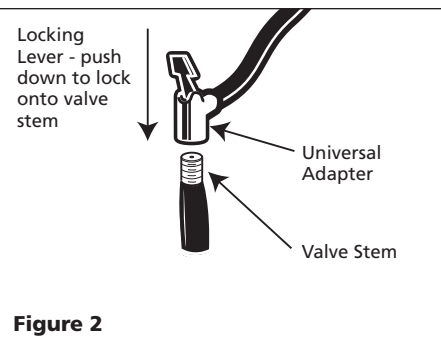

Figure 2
d.) Press locking lever down to lock onto valve stem (see Figure 2).
- 1) To use inflation accessories, insert accessory into the universal adapter and push the lever to lock into place (see figure 2). The inflation accessory will fit securely.